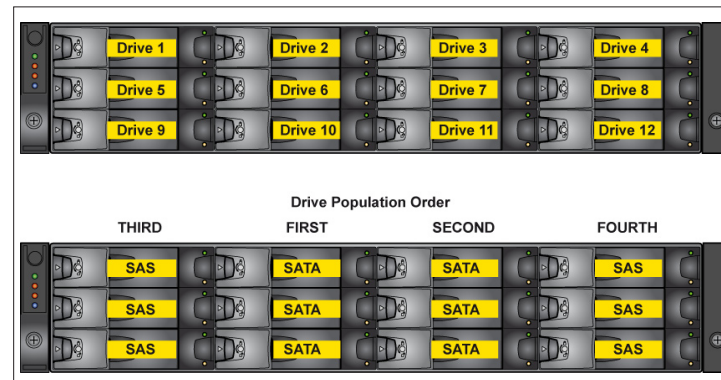

Figure 13: Bay Number Definition and Example Drive Type Location
C. If a change in drive technology is required, then a new column of drives should be populated (see Figure 13). All members of the column should maintain the same drive type.